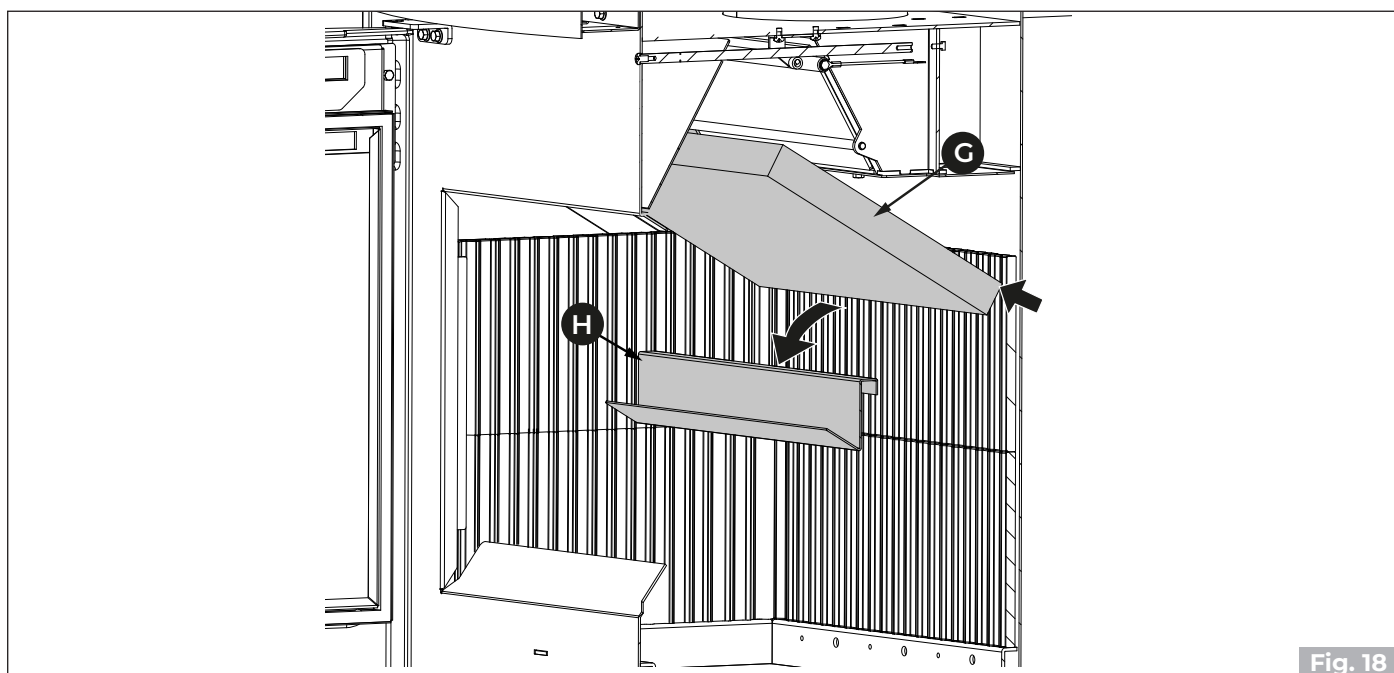

Fig. 18
Open the door, lift up the baffle (G) and remove the afterburner plate (H) "Fig. 18".